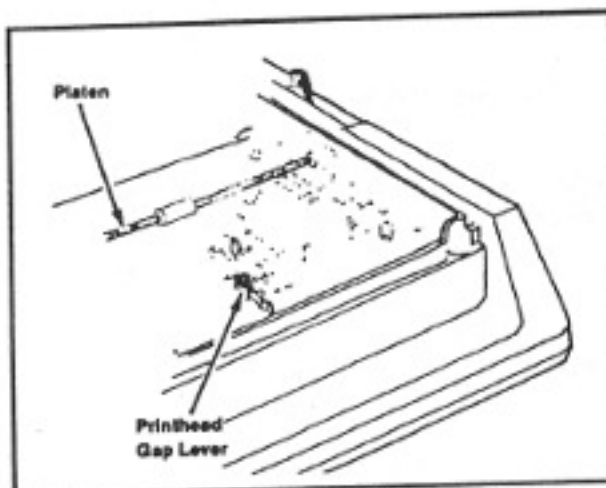

FIGURE 62. Location of Printhead Gap Lever.
7. Be sure the blue printhead gap lever, located to the left of the ribbon cartridge (Figure 62), is set in the number one (1) position.